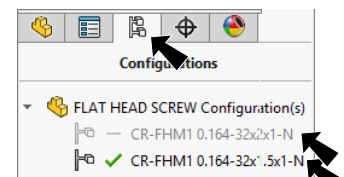
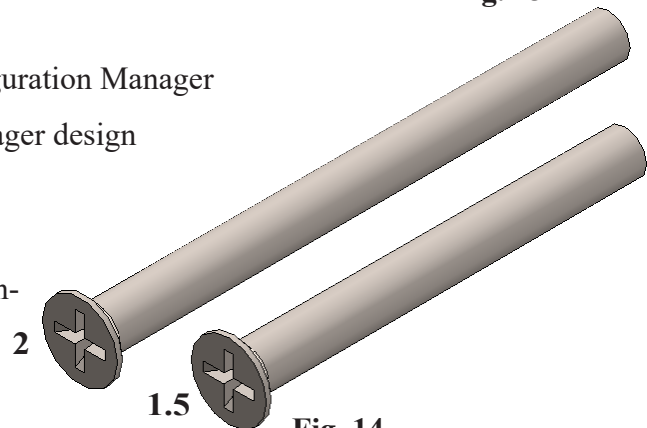

Fig. 13
Fig. 14
Step 1. Confirm configurations. Click the Configuration Manager tab  at the top of the Feature Manager design tree, **Fig. 13**.
Step 2. Double click on a configuration to switch configurations, **Fig. 13**. The length dimension changes in the graphic area, **Fig. 14**.